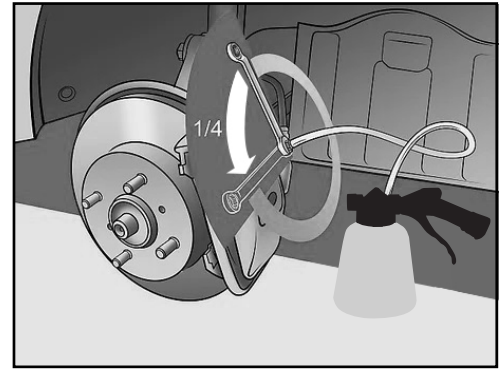

Figure 2
- 3) Start with wheel furthest from the master cylinder. Make sure bleeder screw is clean and unrestricted. Mount the black rubber hose connector onto the brake nipple on the first wheel. Make sure the adapter is firmly fitted to bleeder and open the nipple about 1/4 turn counterclockwise. (Figure 2)